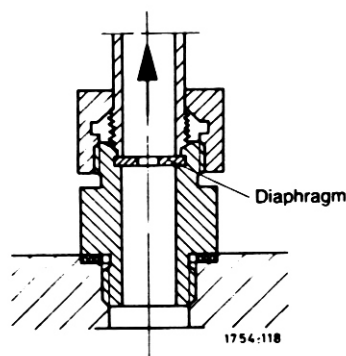

Fig. 8 Diaphragm in balance line
- ↳ Mind the diaphragm fitted in our works (Fig. 8) when disassembling or mounting.